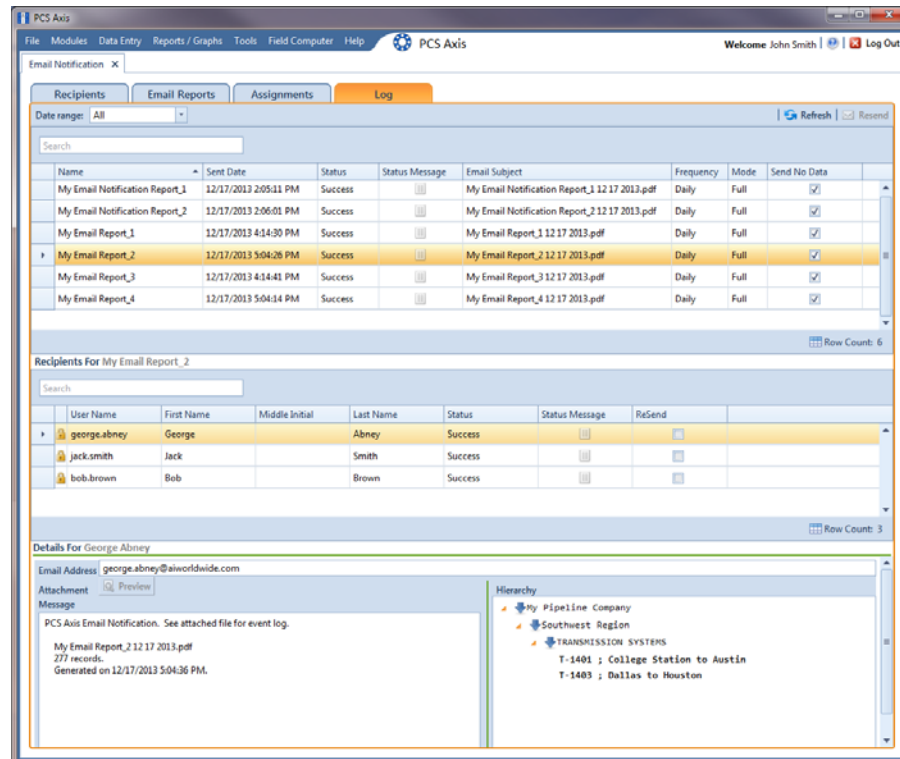

Figure 12-14. Email Notification Log
If your computer is installed with Adobe® Reader, you can also view a copy of a report sent to an email recipient by clicking the *Preview* button in the *Details For* group box (Figure 12-14). Clicking *ReSend* for a selected email recipient in the *Recipients For* group box allows PCS Axis to re-send reports assigned to the user.
- 2 Click  **Log** to open the *Email Notification* log (Figure 12-14, page 511).
- 2 Click **Log** to open the *Email Notification* log (Figure 12-14, page 511).